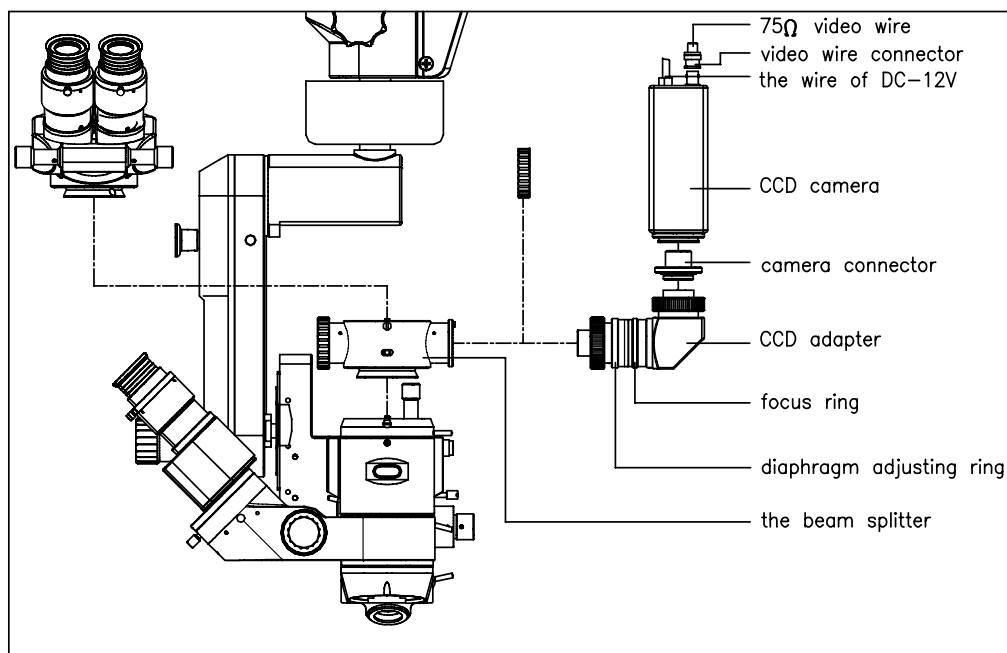

Fig.7
10. Finally fit the eyepiece to the beam splitter (indicated in Fig. 7).